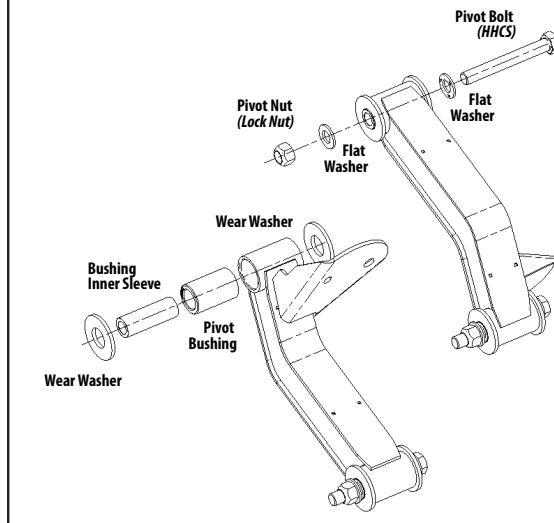

Figure 4. Bushing kit with/without hardware includes components for eight (8) pivot connections.
- Assemble the pivot connection with one wear washer on each side of the bushing (Figure 4). Inner sleeve must be flush with or extend slightly past the outside of the wear washers.